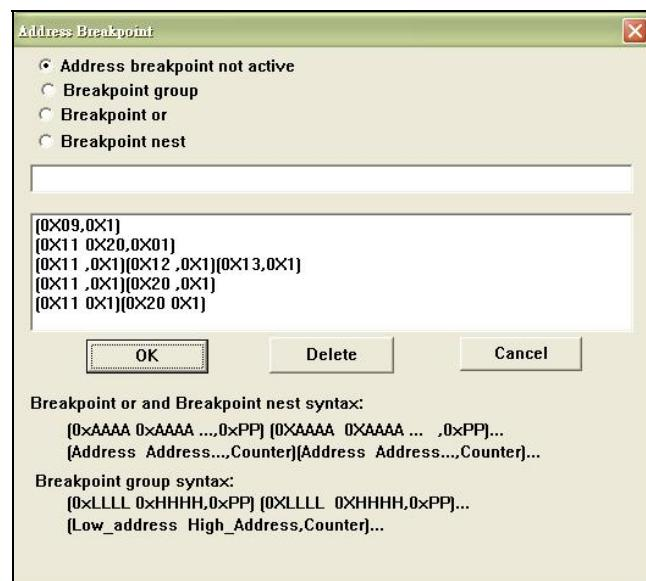

Figure 2-10 *Address Breakpoint* Dialog from *Address Break Point* Command
- 1) With reference to *Figure 2-10* above, enable the **Breakpoint nest** checkbox.